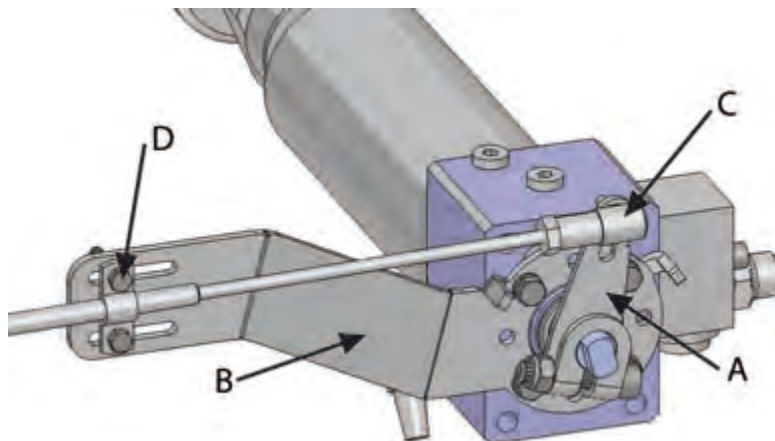

Figure 36. Hydraulic cylinder
The control cylinder of the reversing deflector is used with the lever (figure 36, point A) that is at the end of the cylinder. The lever has a cable terminal when it is delivered from the factory. However, the cable's inlet direction can be different than the standard direction of the cable support (figure 36, point B). You can turn the cable support plate to point in the desired direction in accordance with the cable's inlet direction.
1. If the control cable is attached, detach the end of the cable (figure 36, point C) from the cylinder's operating lever and detach the cable fastener from the support plate (figure 36, point D).